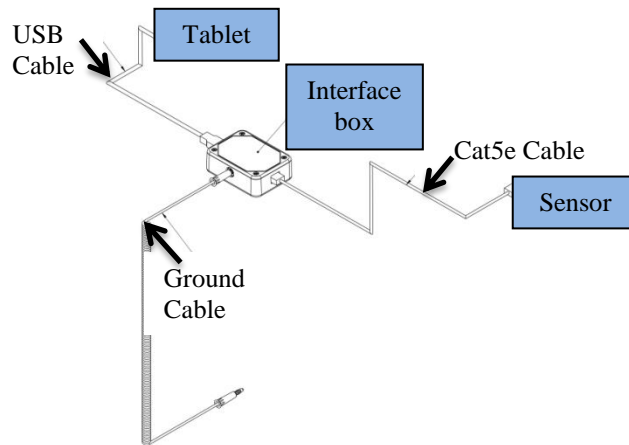

Figure 3.2 System Assembly
- To complete the setup, install all of the cables in manner described and shown. (Figure 3.2)
1. Ensure the Cat5e Cable is connected to the Ionmaster 1000 and the interface box. Go back to section 3.2 and reference the diagram. (Figure 3.2)
2. Ensure the Cable is connected to the tablet and the interface box. (Figure 3.2)